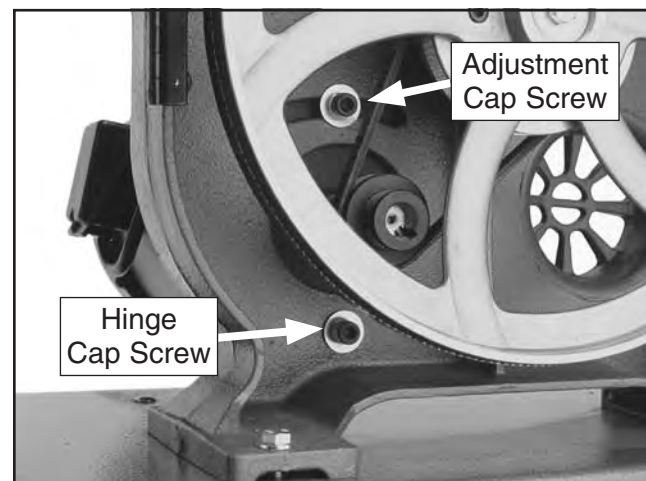

Figure 59. Locations of the motor adjustment and hinge cap screws.
2. Open the lower wheel cover and loosen the motor adjustment and hinge cap screws shown in **Figure 59**.